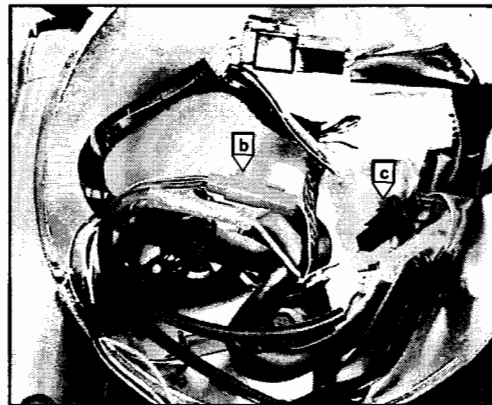

Figure 2
4. Remove the turn signals by unplugging the gray and black wire plug connectors and the brown to gray and green to gray wires. Pull the turn signal lead wires from the headlight housing and from underneath the routing clips. Using a 14mm wrench, loosen and remove the turn signal nuts and then remove the turn signals. See Figure 2.